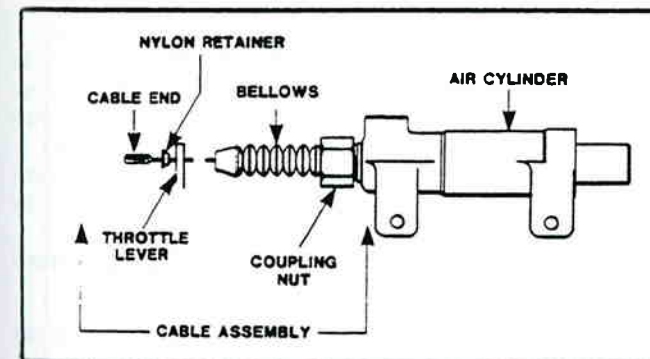

Figure 9-12. Throttle Cable Assembly.
**THROTTLE CABLE ASSEMBLY** — links the air cylinder to the engine throttle control. It permits the pull developed by the air cylinder to be transmitted to the engine throttle. The cable incorporates a threaded nut for attachment to the air cylinder. See figure 9-12.